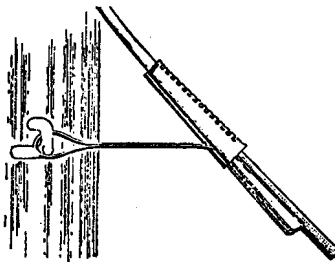

FIGURE 4. Inserting Clamp Wedge
- e. Insert the wedge loosely under the clamp with point of wedge directed toward the attachment. If necessary, bend the loop of the clamp at the point of contact with the wedge to facilitate inserting the wedge. Do not bend the drop wire excessively. See Figure 4.